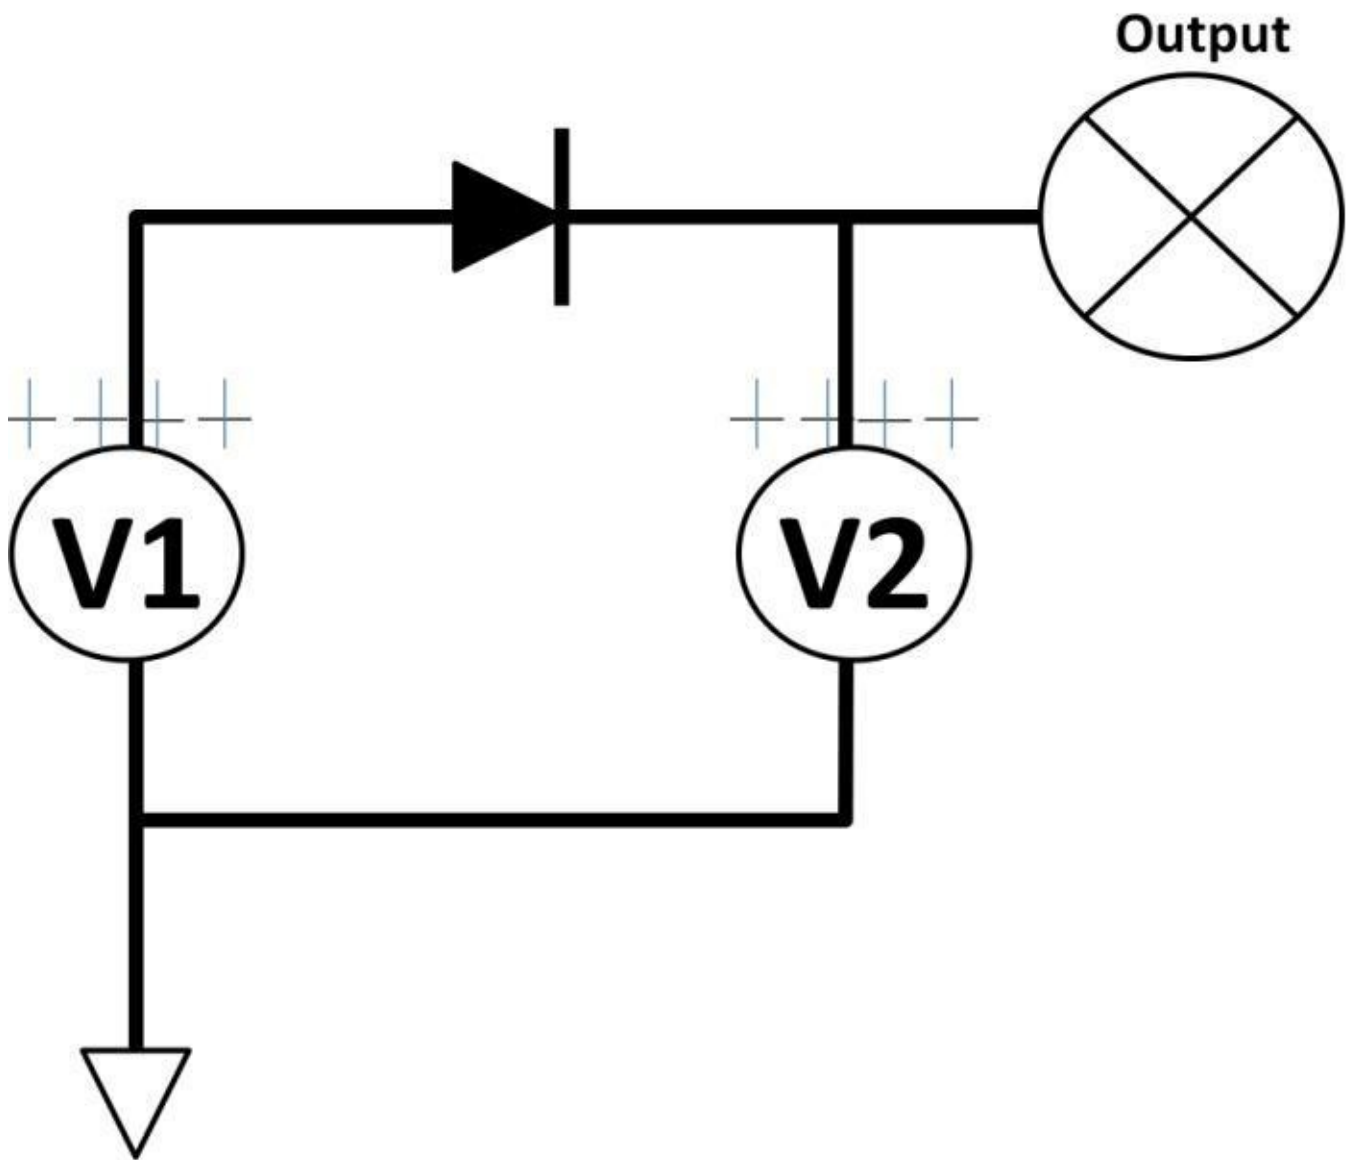

Figure 2.8: Diode application
4) As mentioned previously in this chapter, diodes are modeled as switches. Let's take a look at a practical circuit (see figure 2.8). An output is supplied by either one of the two voltage sources (V_1 and V_2). There are two assumptions. **1)** When V_1 is present, V_2 is not. **2)** When V_2 is connected, it would be higher than V_1 . If $V_1 = 5\text{ V}$, the forward diode drop is rated at 1 V . This forward-biases the diode causing the voltage at the output to be 4 V . If V_2 is 10 V connected to the output, the diode is now reverse-biased (voltage at cathode $>$ anode). The diode is off (switch is open), and V_2 is then the only voltage supply to the output.